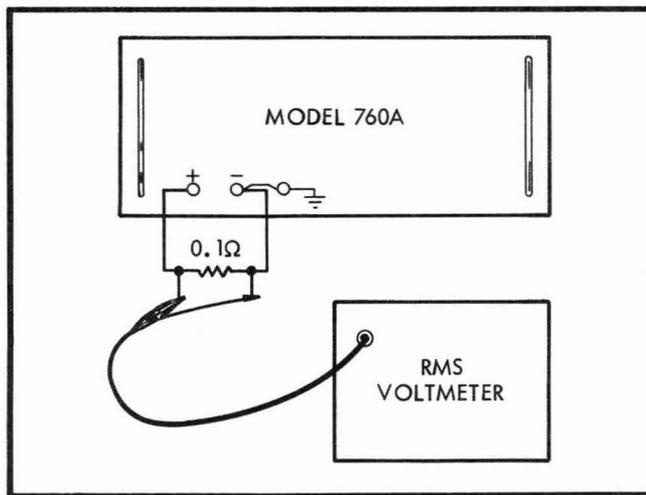

Figure 4-11. AC CURRENT CALIBRATION SETUP
- (1) Turn the FUNCTION switch to AMPS,
- (2) Turn the FREQUENCY switch to 400 Hz,
- (3) Turn the METER SENS switch to SEARCH,
- (4) Set the readout dials to 2.000000, and
- (5) Turn the OUTPUT ADJUST-COARSE control to RESET.
- b. Connect the 0.1 ohm resistor to the OUTPUT terminals and connect the rms voltmeter across the resistors as shown in Figure 4-11.